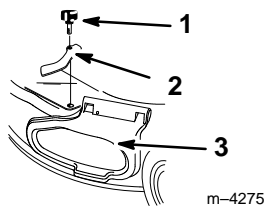

Figure 31
2. Remove the knob and side cover clamp (Fig. 31).
2. Remove the knob and side cover clamp, then replace the knob in the hole and save the clamp for future use (Fig. 31).
3. Lift up on the side opening cover (Fig. 31).